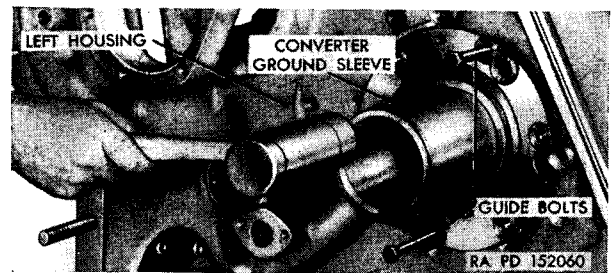

Figure 321. Seating ground sleeve.
- (3) Install a $\frac{3}{8}$ -inch fine thread guide bolt, about 4 inches long, in a bolt hole on each side of the converter ground sleeve. With the bolts as a guide, and using a soft hammer, seat the ground sleeve in the housing bore (fig. 321). Be careful to see that the "O" ring gasket in the housing bore is seated properly as the sleeve goes into the bore.
- (4) If possible, chill the ground sleeve before installation. Secure the ground sleeve with six $\frac{3}{8}$ -inch bolts and torque 33 to 40 pound-feet.